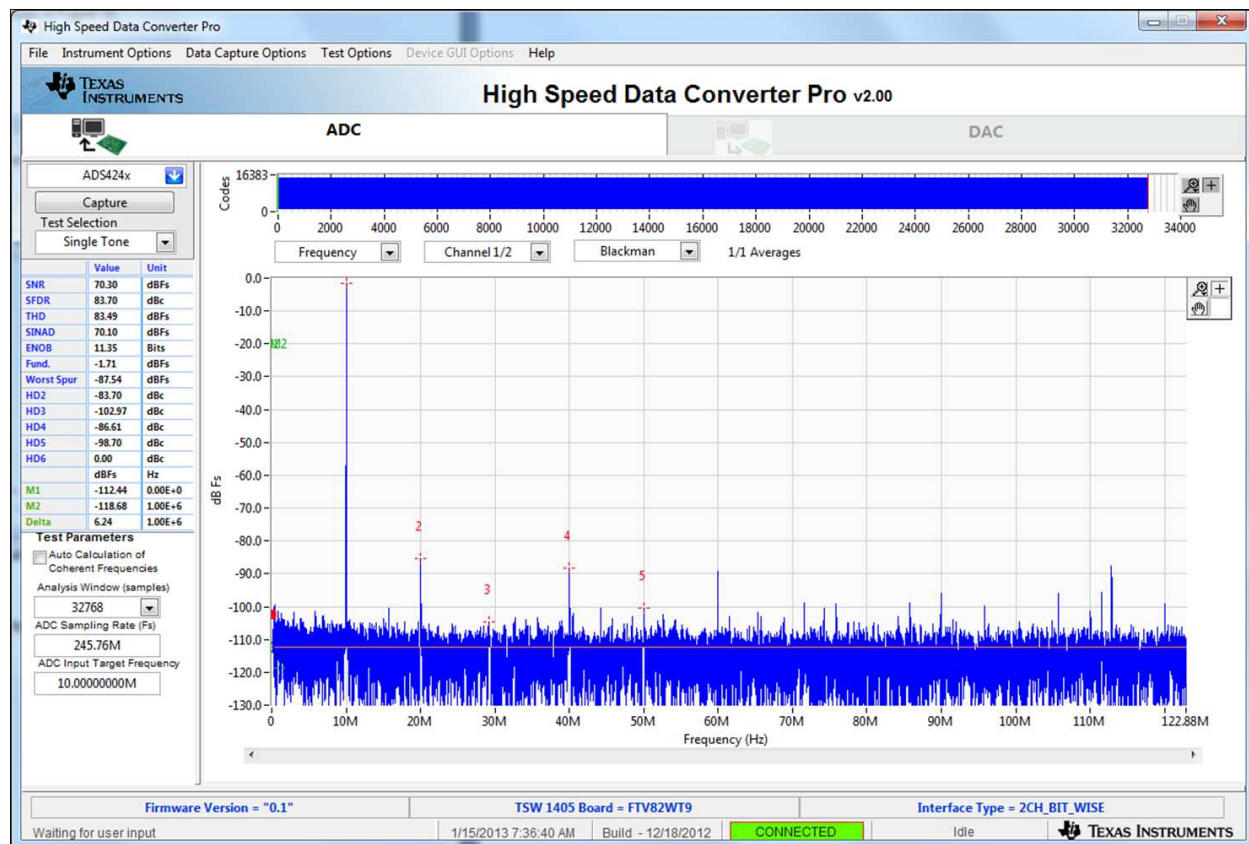

Figure 11. ADS4249 Single Tone FFT Capture Results
- The TSW1405 GUI should now look as shown in Figure 11.